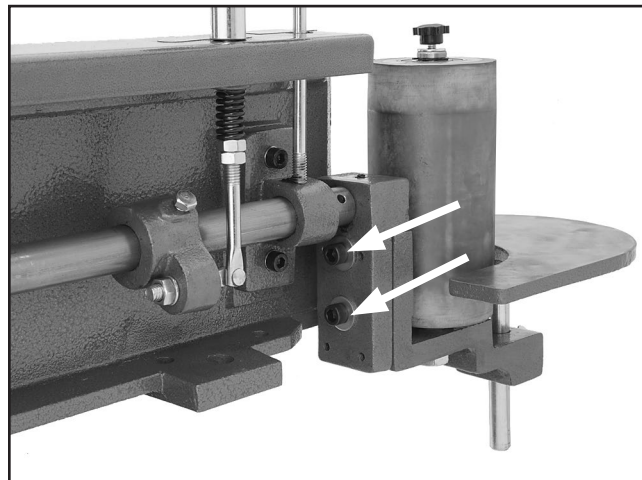

Figure 58. Idler roller adjustment cap screws.
3. Loosen the two cap screws, shown in **Figure 58**, approximately one full turn.